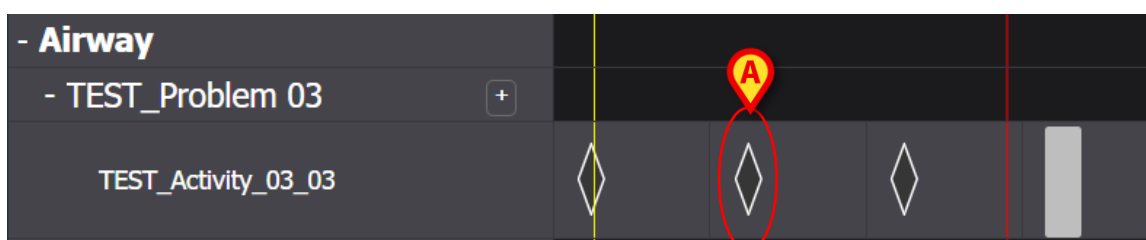

Fig 87
- Click the corresponding mark on the “Active Plan” (Fig 87 **A**)